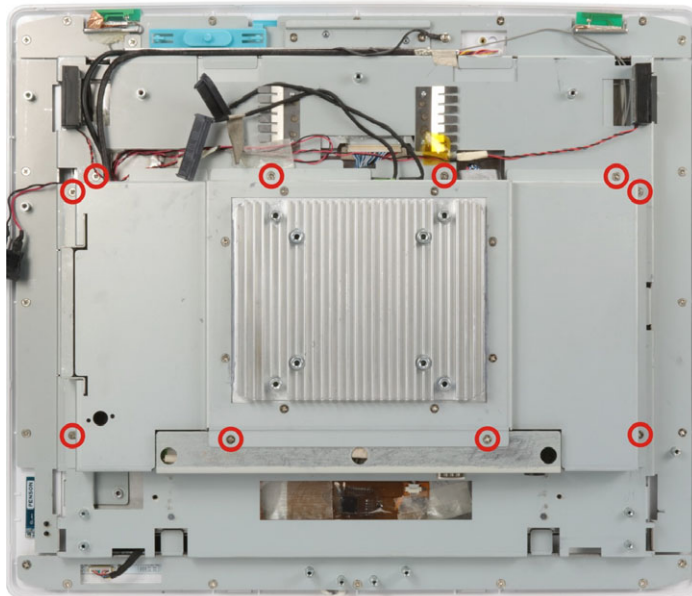

Figure 6-3: Aluminum Cover Retention Screws
Step 5: Remove the 10 retention screws from the internal aluminum cover. (**Figure 6-3**).